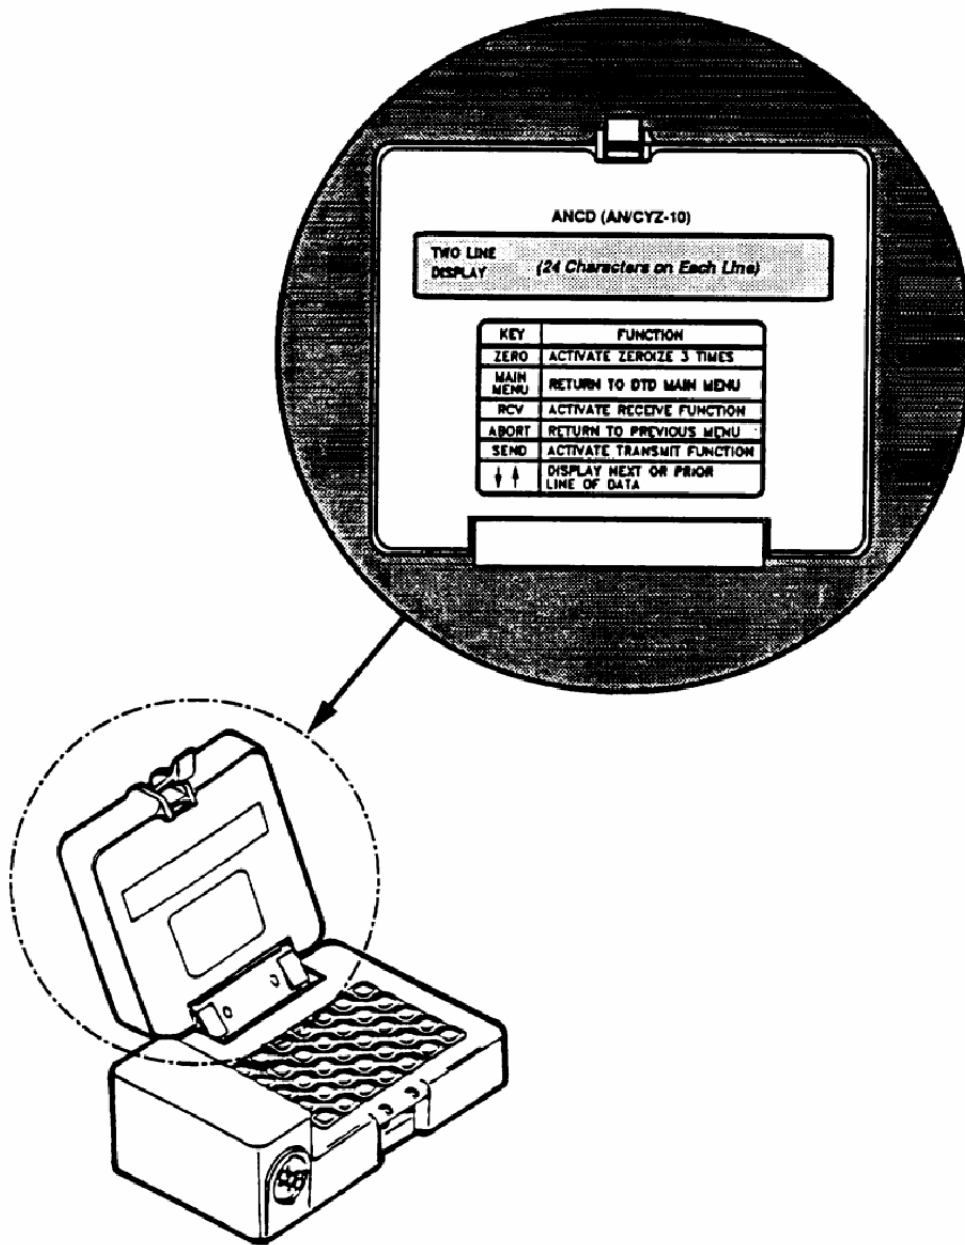

Figure 2-3. ANCD Indicators 2-6
b. Indicators. (See Figure 2-3)
- d. Use of ANCD to Transfer SOI Data from ANCD to ANCD (see Figure 2-3 and Table 2-2).